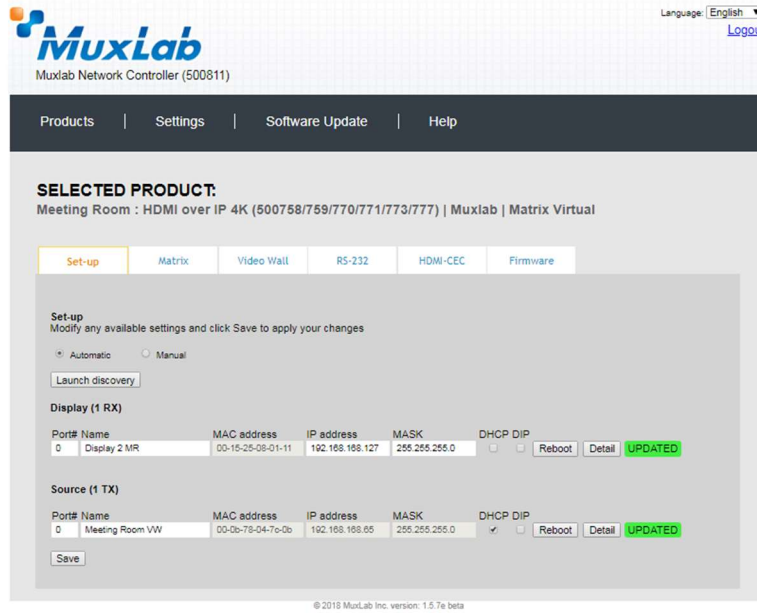

Figure 333: Saving Name Changes
Each 500773 transmitter can be assigned an arbitrary descriptive name, normally reflecting the end device that it is terminated to. To change the name of any Source (TX) device, click the **Name** field to edit its contents. Several **Name** fields can be edited before saving changes, as shown in Figure 333 (orange highlighted fields).